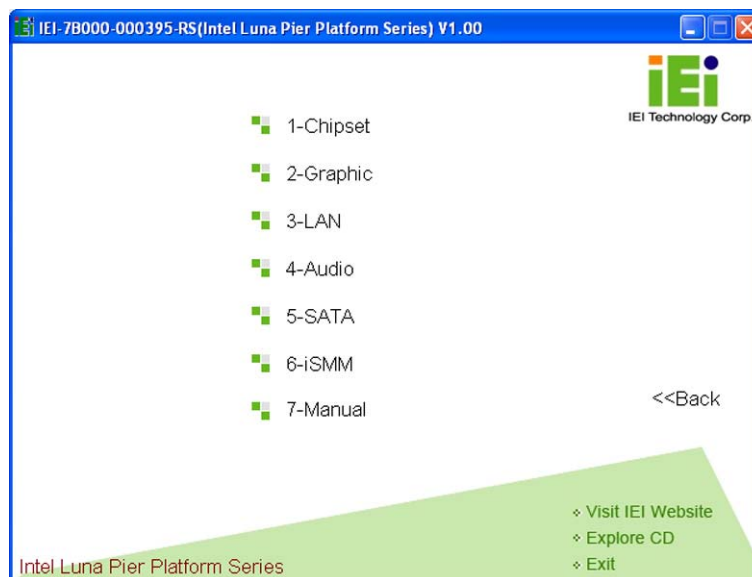

Figure 4-22: Available Drivers
Step 4: A new screen with a list of available drivers appears (Figure 4-22).